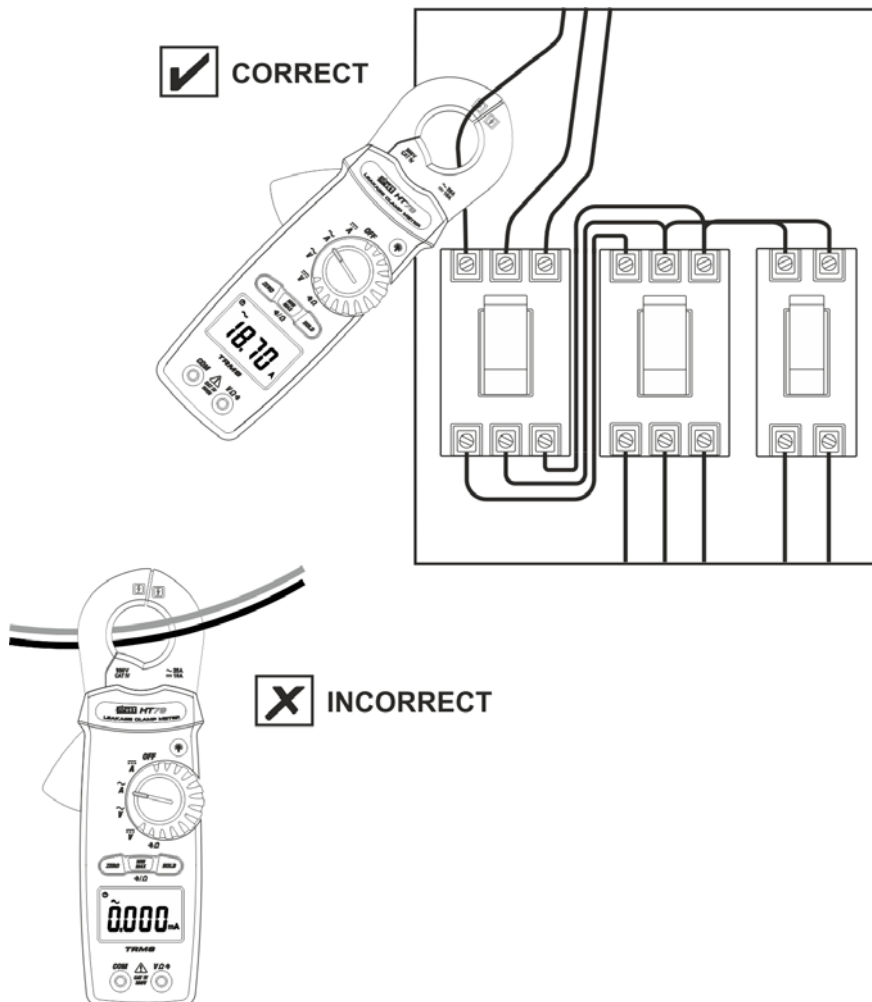

Fig. 9: Use of the instrument for AC current measurement
2. Insert the cable in the middle of the clamp jaws (see Fig. 9), in order to obtain accurate measures (see Fig. 2). The display shows the value of AC current.